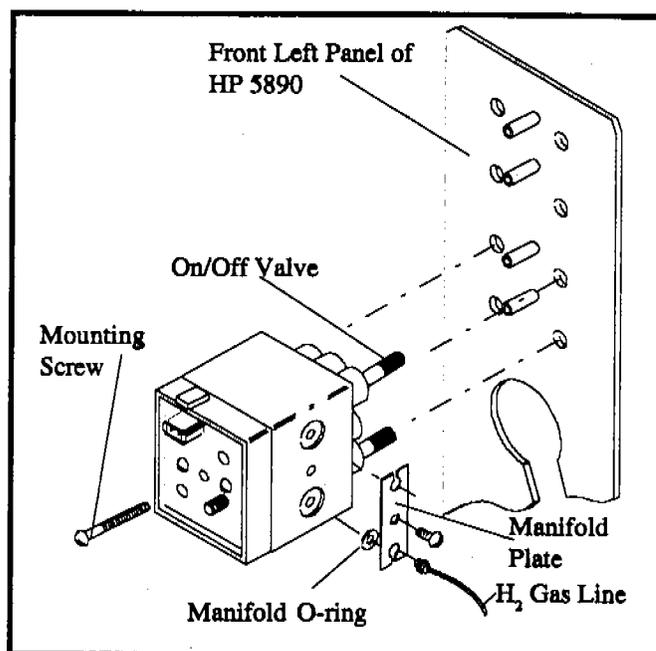

Figure 3.4. Gas Flow Module
The bottom, side port (hydrogen) is the position used for the ELCD. The H₂ gas line from the reactor base is connected to this port after the reactor base is installed (see Figure 3.4).
- Slip the gas flow module into place on the back side of the front left panel as shown in Figure 3.4. The module fits over the two standoff posts and is fastened with the M4 x 45 mm mounting screw in the center location (**do not overtighten the screw**). Check the on/off valve for freedom of movement. If the valve knob is difficult to adjust, loosen the mounting screw and adjust the on/off knob position until it is approximately half-open. Retighten the mounting screw and recheck the valve knob for freedom of movement.
- Attach the gas supply lines to the solvent flow block by using the manifold plate (Part #197772) and manifold O-ring (Part #185116) as in Figure 3.4.